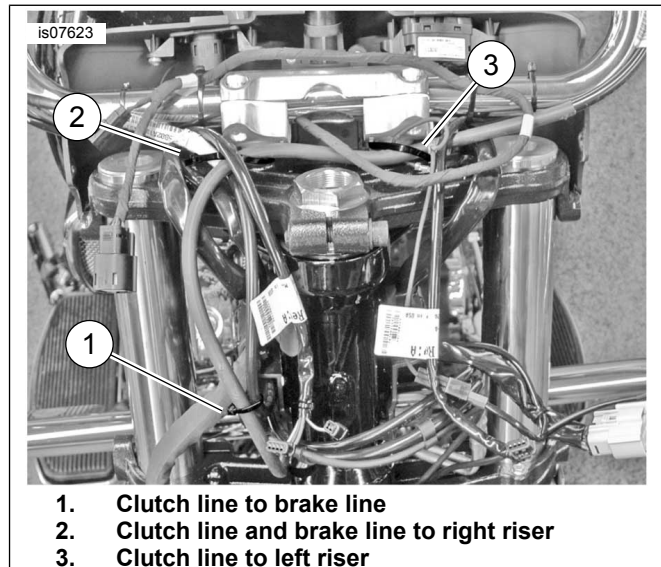

Figure 1. Clutch and Brake Fluid Lines, Fairing Models (Fairing Removed for Clarity)
4. **Fairing models:** See Figure 1. Remove cable straps that secure the clutch fluid line to the brake line and handlebar clamp.
2. **Fairing models:** See Figure 1. Route clutch fluid line through inner fairing to master cylinder retracing original path. Loosely secure line to each handlebar riser and the brake line with three new cable straps (purchased separately).
9. **Fairing models:** See Figure 1. Secure clutch fluid line to the handlebar clamp and brake line using the three new cable straps. **FLRT models:** See Figure 6. Install cable strap around frame tube and clutch line through the small slot in the bowtie bracket. **Softail models:** See Figure 8. Adjust routing in front of ABS (if necessary) and down to the right side frame tube. Secure as noted during removal.